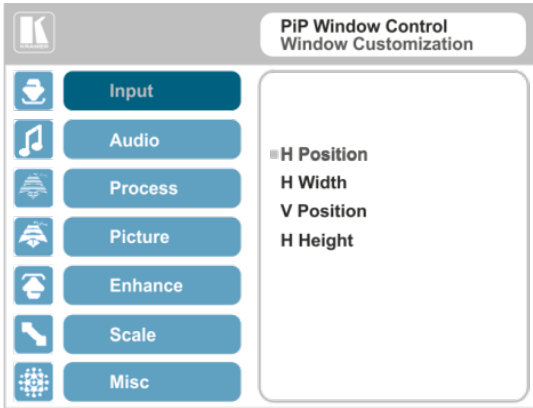

Figure 11: Window Customization
2. Select Window Customization (see Figure 11).